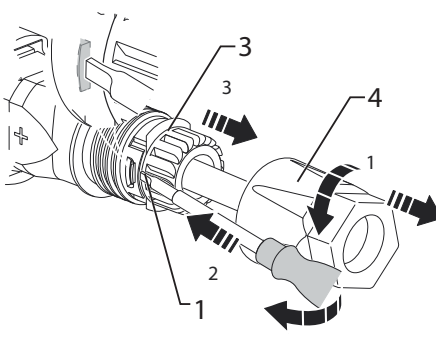

Figure 43: Unfasten DC cable
- 5. Insert screwdriver on the side (see Figure 43 on page 48).